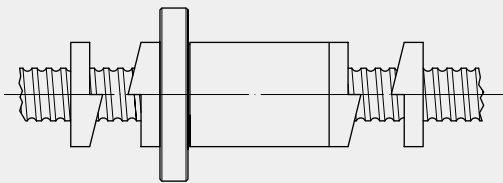

Fig 4.5 A dog stopper to prevent the nut from over travelling
- (6) A dog stopper should be installed at the end to prevent the nut from over-travelling which results in damage to ballscrew assembly (Fig 4.5).